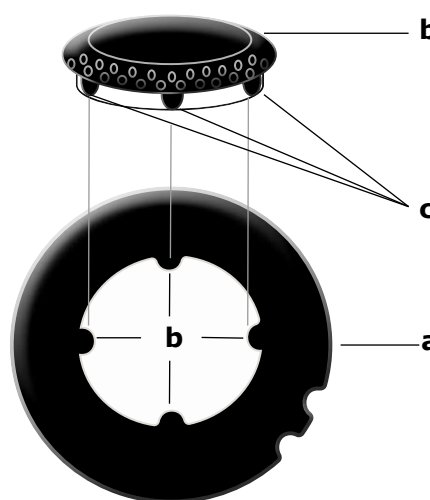

Fig. C1
position the brass flame distributor "b" (fig. C1) properly. For this, line up the tooth "c" on the flame distributor with the hollow "d" of the aluminium cup "a".
**BE CAREFUL:** always check that the burners are properly positioned (see fig. C – fig. C1), with a uniform flame that is not noisy flame.
**BE CAREFUL:** always check that the burners are properly positioned (see fig. C1), with a uniform flame that is not noisy.